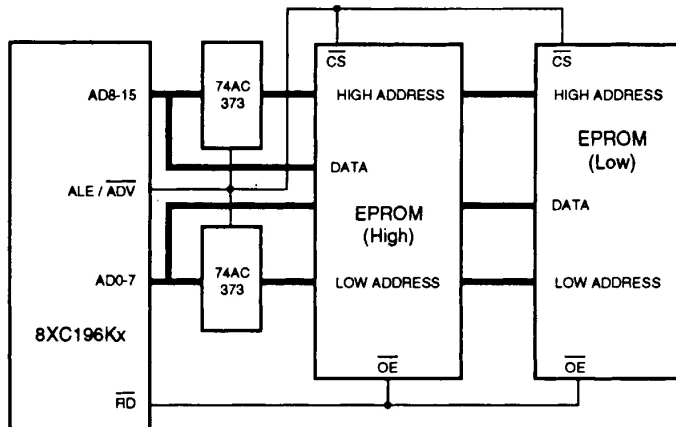

FIGURE 11.24 Multiplexed address/data bus system.
**Multiplexed Address/Data Buses.** As the name implies, multiplexed address/data buses allow the address as well as the data to be passed over the same microcontroller pins by multiplexing the two in time. Figure 11.24 illustrates a typical multiplexed 16-bit address/data bus system as is implemented with Intel's 8XC196Kx family of microcontrollers.